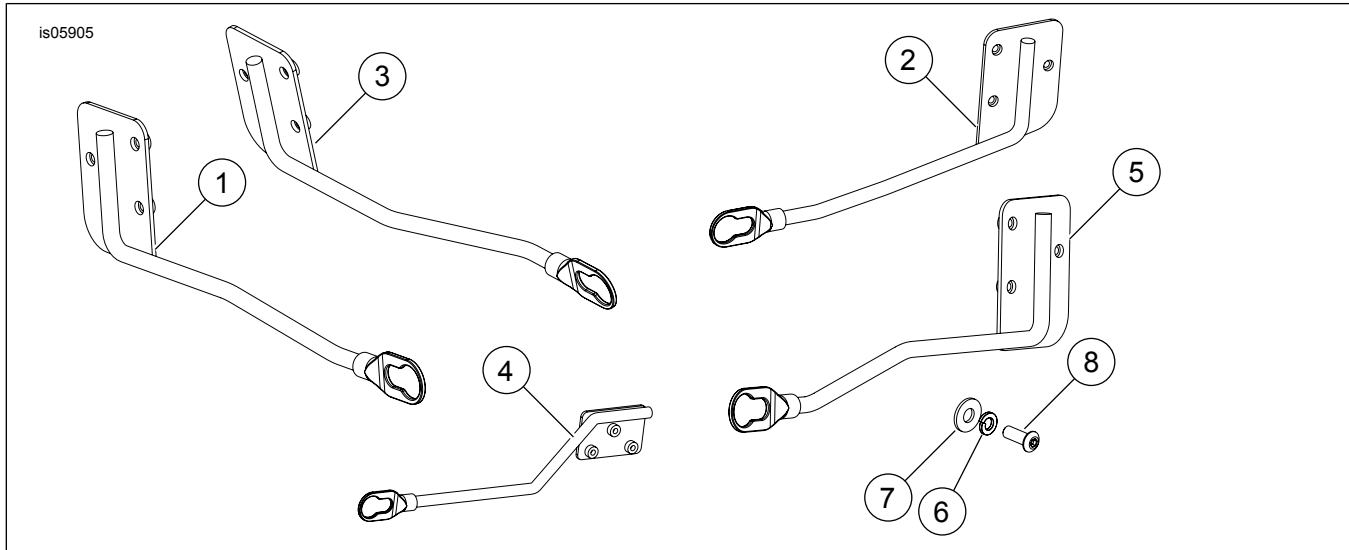

Figure 1. Service Parts: Detachable Saddlebag Lower Support Bracket Kit
See Figure 1 and Table 2.
1. See Figure 1. Install the lower support bracket (1, 2, 3, 4 or 5), lockwashers (6), washers (7) and screws (8). Do not fully tighten.